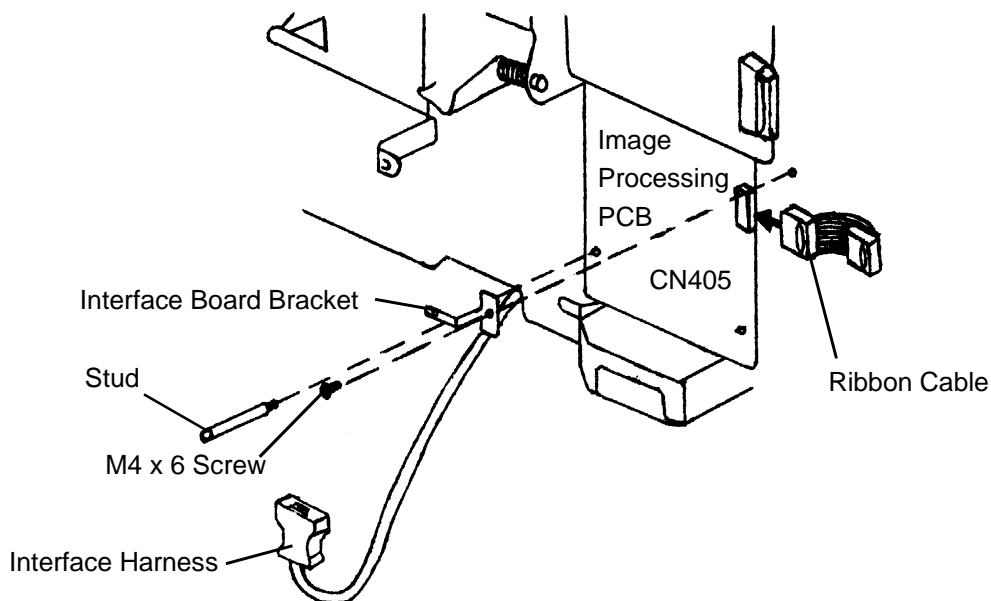

FIGURE 1 - Front View of frame with Mounting Hardware
4. Mount the Interface Board Bracket onto the chassis at the right side of the Image Processing PCB using the Phillips M4x6 screw with flat washer. The bracket is used to support the upper right corner of the Video Interface PCB. Refer to figure 1.